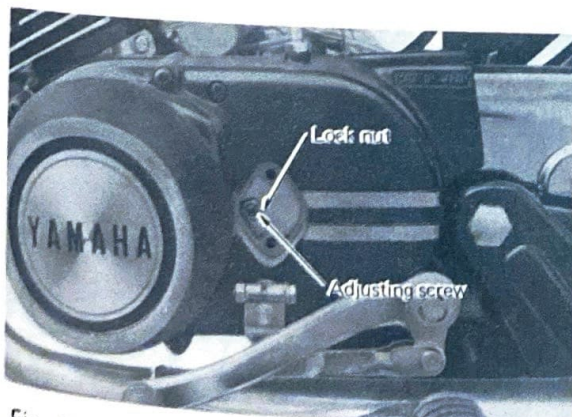

Fig. 4-9-14
(Fig. 4-9-14)
- b. Loosen the adjusting screw lock nut as shown in Fig. 4-9-14.
A. This adjustment is made on the left upper part of the crankcase cover. (Refer to Fig. 4-9-14).